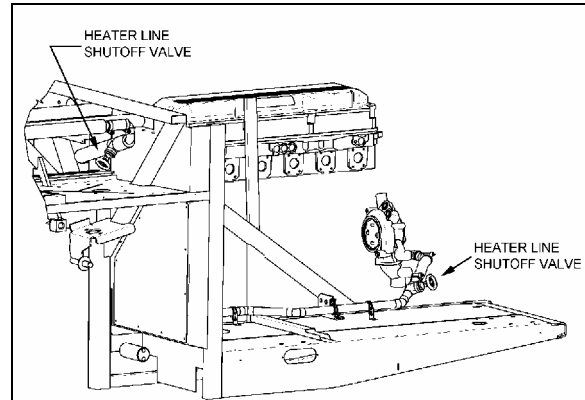
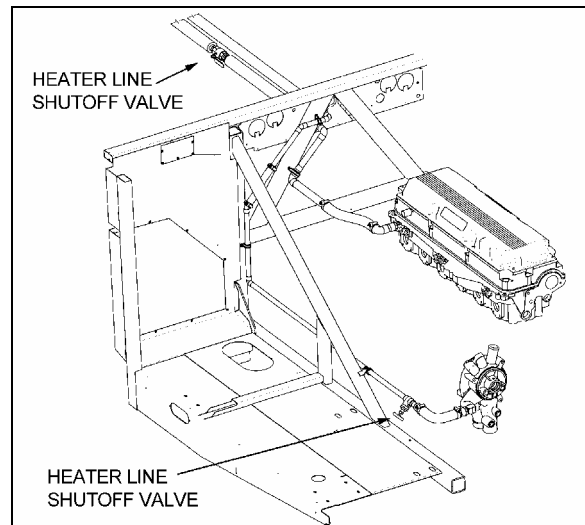

FIGURE 48: HEATER LINE SHUTOFF VALVES (COACH)
FIGURE 49: HEATER LINE SHUTOFF VALVES (VIP)
2. Close both heater line shutoff valves (Figure 48 & Figure 49). One is located in the engine compartment under the radiator fan gearbox, while the other one is located behind the L.H. hinged rear fender near the preheater. Refer to "Preheater System" in this section to gain access to the heater line shutoff valve.